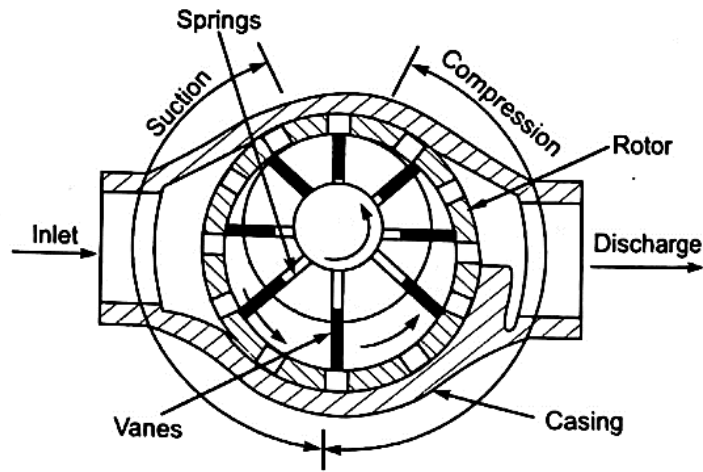

Fig.4.6 Rotary Vane Compressors
- ▶ The rotor is mounted eccentrically, i.e., not in the center of the casing. It consists of a number of slots with sliding vanes as shown in the Fig.4.6. During the running of the compressor, the sliding vanes, which are normally made of non-metallic materials, are held against the cylinder due to centrifugal forces.
- ▶ The operation of the vane compressor is explained with the help of Fig.4.6 For the sake of clarity, only four vanes are shown.